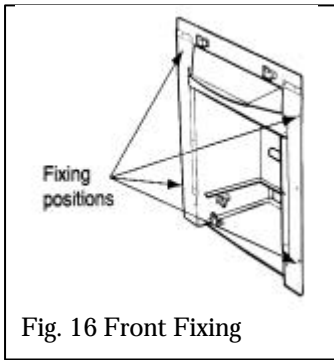

Fig. 16 Front Fixing
7.1.1.2 Mark the fireplace front surround through the four fixing holes in the side flanges of the convection box (see figure 16).